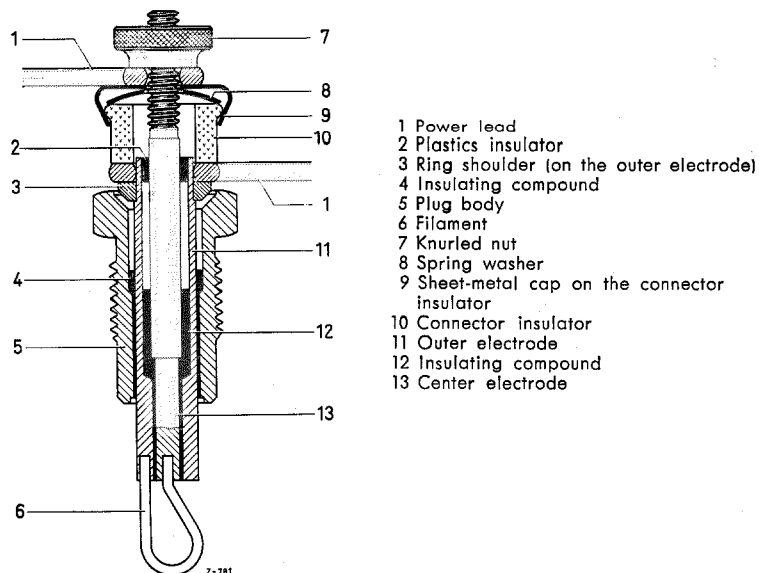

Figure 15-30/1
Figure 15-30/1 shows the design of a glow plug. The current flows through the power lead (1) or a connecting cable, depending on the location of the plug, to the center electrode (13) or the ring shoulder (3) of the outer electrode (11). The center electrode (13) and the outer electrode (11) are connected through the filament (6). The insulation between the two electrodes is handled by the insulating compound (12) and against the plug body (5) by the insulating compound (4). An additional plastics insulator (2) has been installed between the outer and the center electrode at the upper end of the glow plug. The connector insulator (10) separates the two power connections. The spring washer (8) installed in the insulator serves to secure the knurled nut (7) (see Figure 15-30/1).